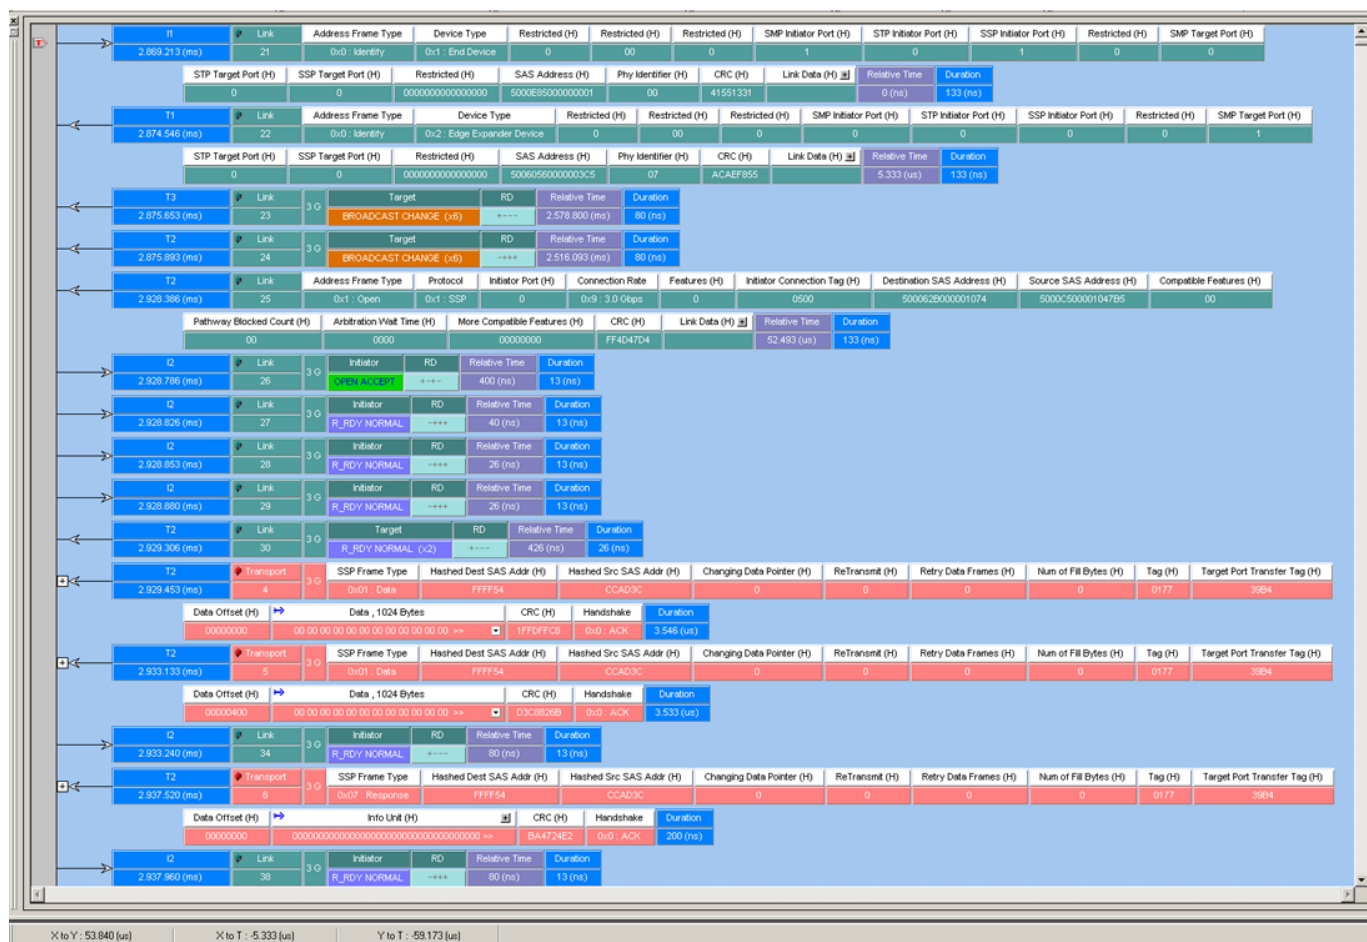

Figure 2.15: SAS: Analyzer Trace Capture Display
5. After the project runs, you see an analyzer trace capture display similar to the one shown in Figure 2.15